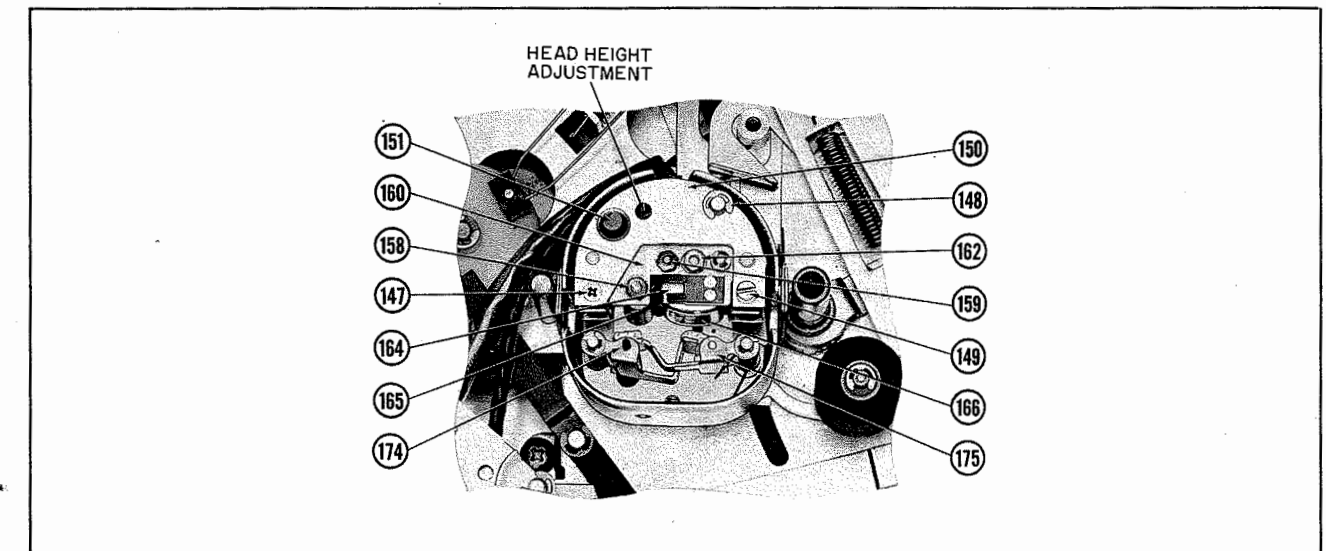

Fig. 11. Top View of Head Assembly.
1. Set head track selector (146) to "A" position. Remove head cover casting (3) and track selector knob.
2. While playing a tape recording place a finger on the roll pin in record pressure pad (174), and pull back pressure pads. Tape should move smoothly past the heads.
3. Using a #2 Bristol wrench, adjust screw (153) through head height adjustment hole so that top of upper head element is exactly even with tape. See Figs. 11 and 18
Refer to Fig. 11.